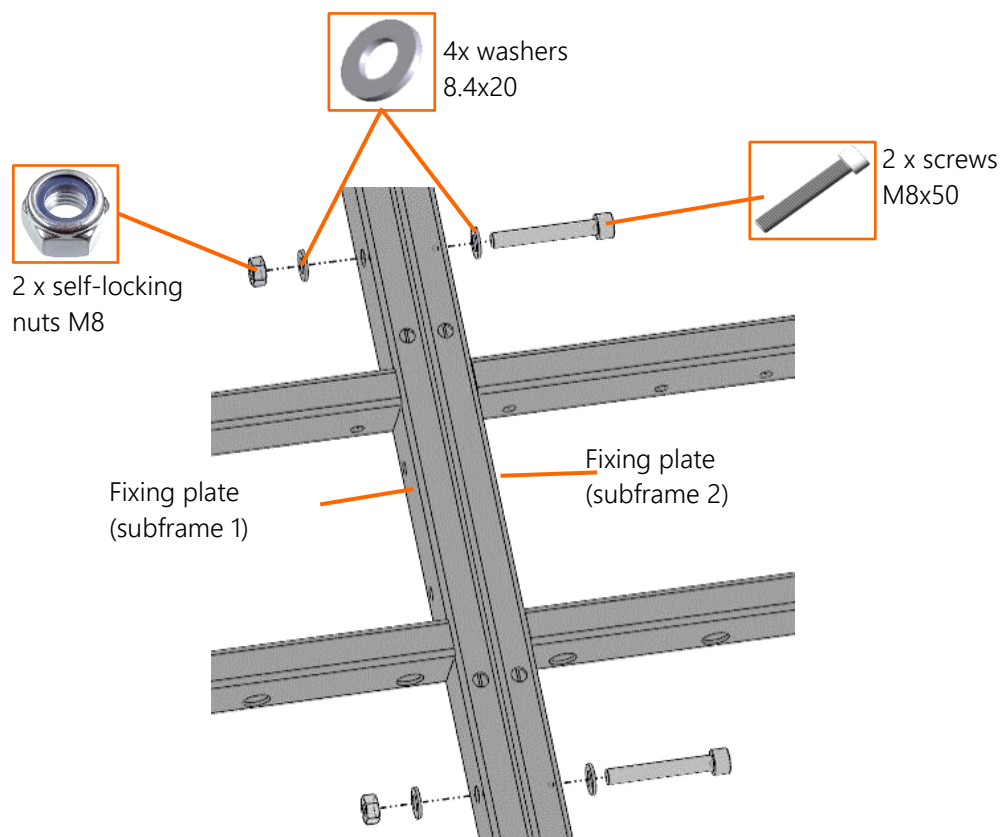

Figure 18 Connection set of the HD 2-leg system
- The three cross beams S and one cross beam E are fastened with the sleeves (24 pieces) and the screws M6x25 (24 pieces) to the lifting elements as described in Figure 18.